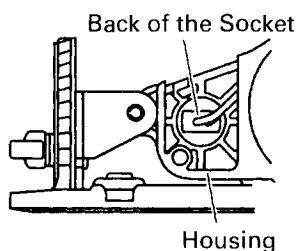

Fig. 21
- (2) Push the back of the socket, and remove the socket and the light bulb together from the housing. (Fig. 21)